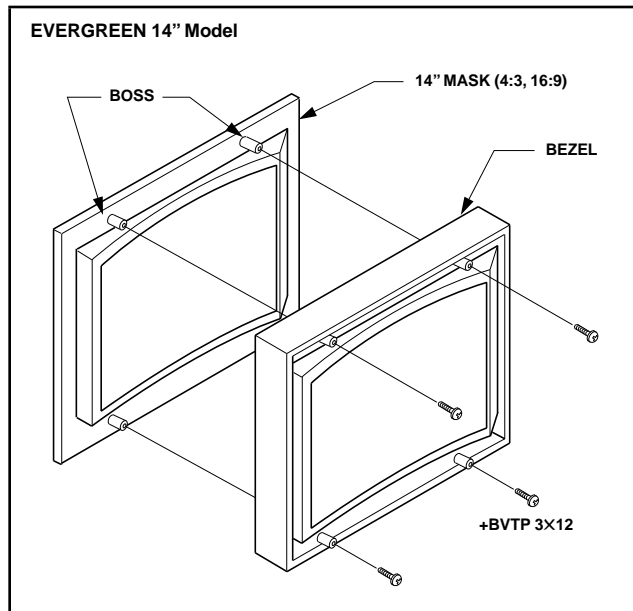

Figure 4
- a. Remove bezel from chassis. (See unit related mask Figures 4 and 5.)